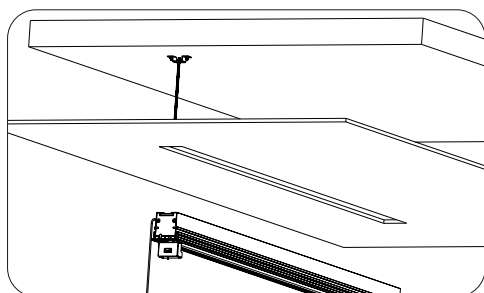

Figure 11
- 2) Insert the control system cable to the corresponding output, (figure 11).